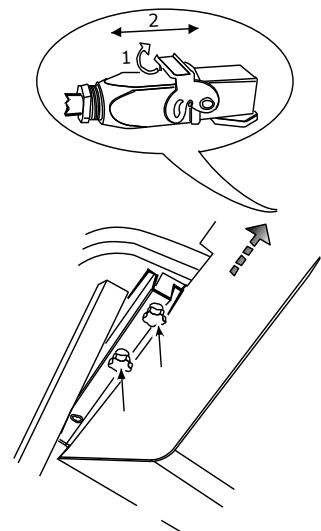

Fig. 12
2. loosen the two knobs and pull the boiler outwards (fig. 12).